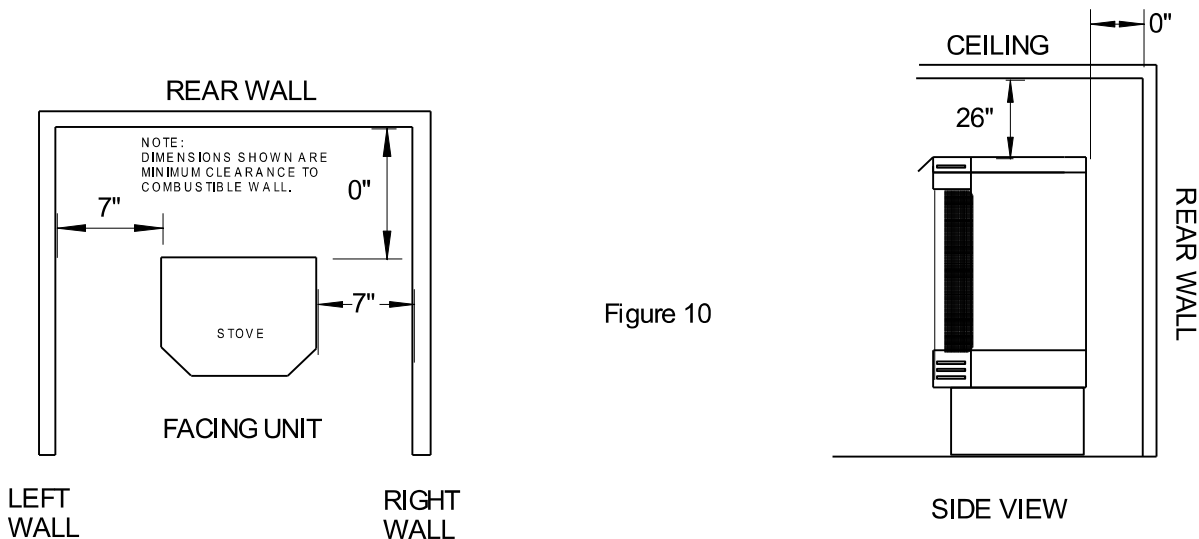

Figure 10
- (1) For clearances, see Figure 10. The minimum must be met.
- (2) For Installation and Gas Hookup Connection see Section II.